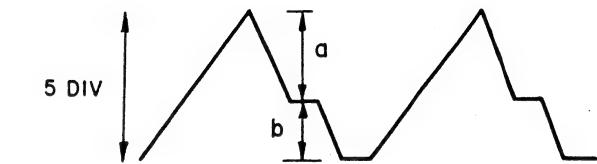

Fig. 9-2 Adjustment Waveform
- When a waveform like that shown in Fig. 9-2 appears on the oscilloscope, adjust the oscilloscope gain so that the peaks agree with 5 Div. Then adjust VR001 so that a:b = 2.8:2.2. (Keep in mind that spurious noise is easily generated.)
- Connect an oscilloscope (or a frequency counter) to pin ⑦ of PA2007 and confirm that output is 111Hz at 33-1/3 RPM and 150Hz at 45 RPM.